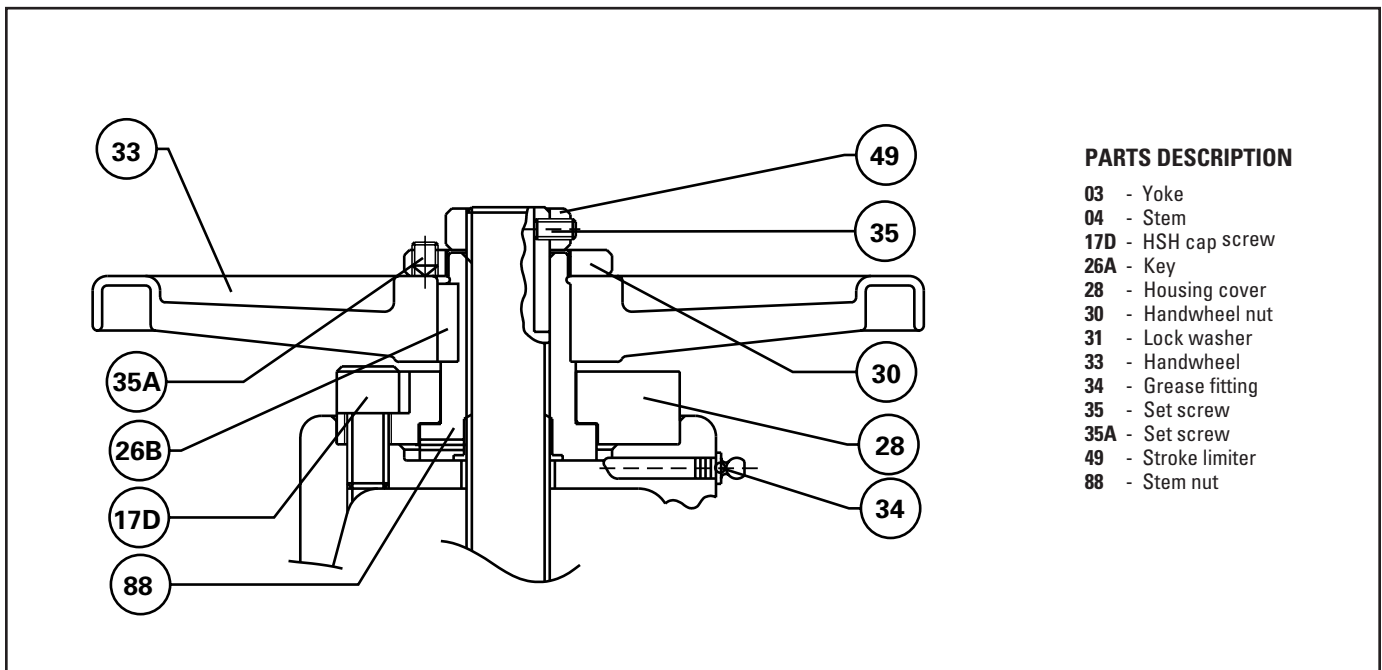

Figure 8.4A Stroke limiter Type II
1. Thread the stem (4) in the disc carrier (43) and line up with bolt holes. Place one disc half (7) and wave spring (46) into the disc carrier followed by 2nd disc half. Using a disc clamp *Fig. 8.4A* or standard "C" clamp squeeze the two disc halves together. Install disc retainer plates (45) into the disc groove (per side) and line up bolt holes. Install two retainer studs or hex. bolts (56A) connecting the retainer plates disc carrier and stem and tighten firmly.